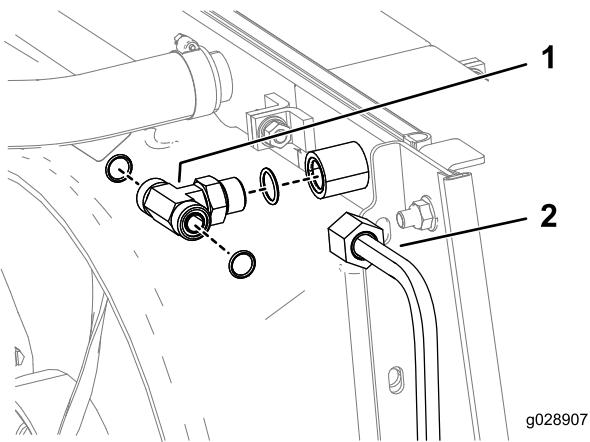

Figure 8
1. If your machine does not have a tee fitting on the left side of the oil cooler, disconnect the hose and fitting and install the tee fitting (Figure 8).
2. Connect the oil-cooler tube to the port on the tee fitting (Figure 8).